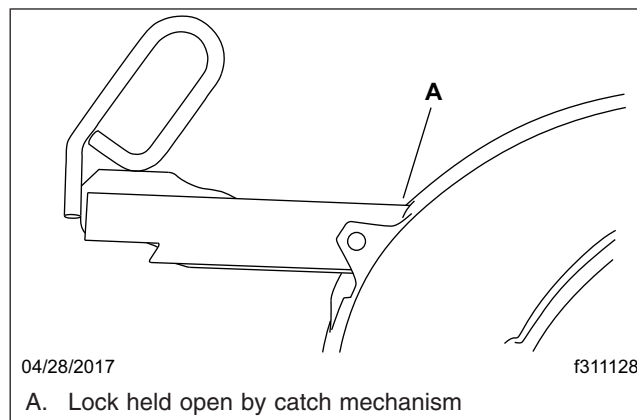

Fig. 18.7, Jost Release Handle Unlocked
2. Open the kingpin locks. See Fig. 18.7.
- 7.3 **Jost:** Pull the retractable handle out and forward, then secure it in the open position with the catch. See Fig. 18.7.